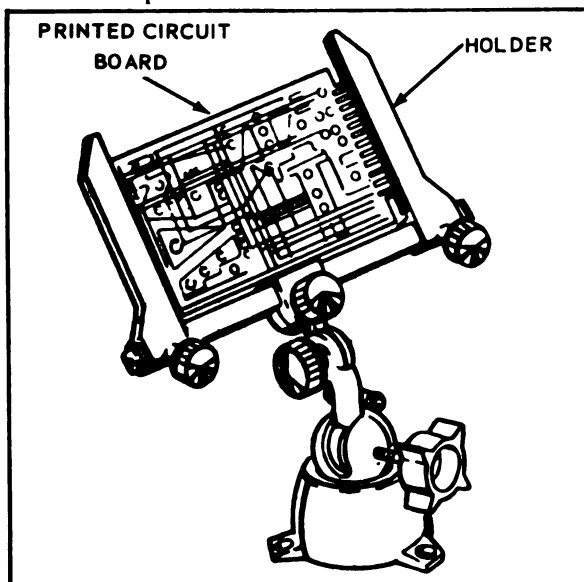

Figure 9-9. Holding Fixture for Printed Circuit Assembly
- g. During repair, use an appropriate holding fixture to support the board by its edges, as shown in figure 9-9. Provide adequate support underneath the board to offset the force of drilling, scraping and component removal or replacement.